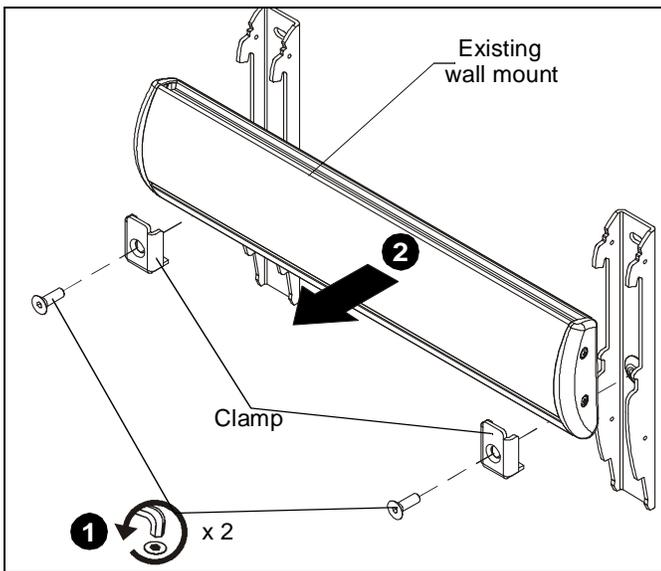

Figure 1
1. Remove two flat head cap screws and clamps from existing dual stud short throw projector wall bracket. (See Figure 1)
2. Remove existing wall mount from vertical wall brackets. (See Figure 1)